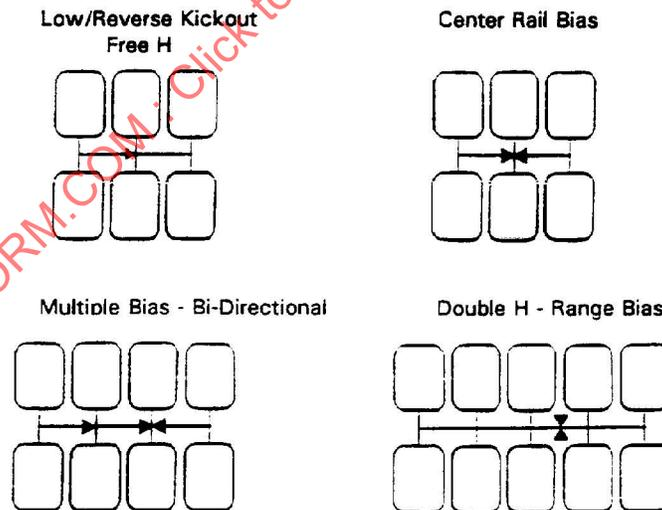

FIGURE 3—RAIL BIASING
**4.1 Rail Biasing**—Provide positive identification of the lever to shift rail position. The bias force to be adequate to guard against involuntary engagement of low or reverse gears (see Figure 3).